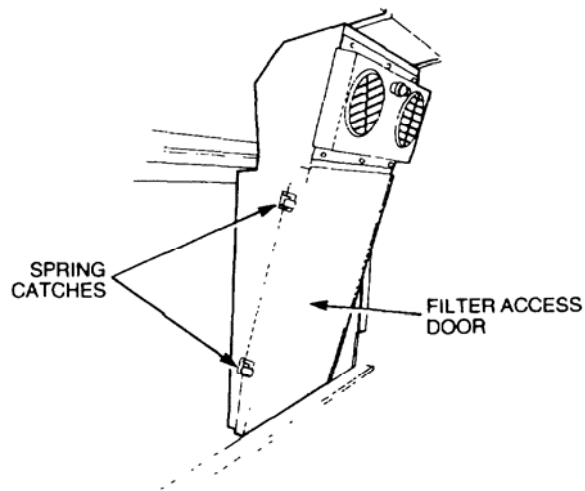

Figure 11 Ducting Door Opening
- a. Release the two spring catches (refer Figure 11).